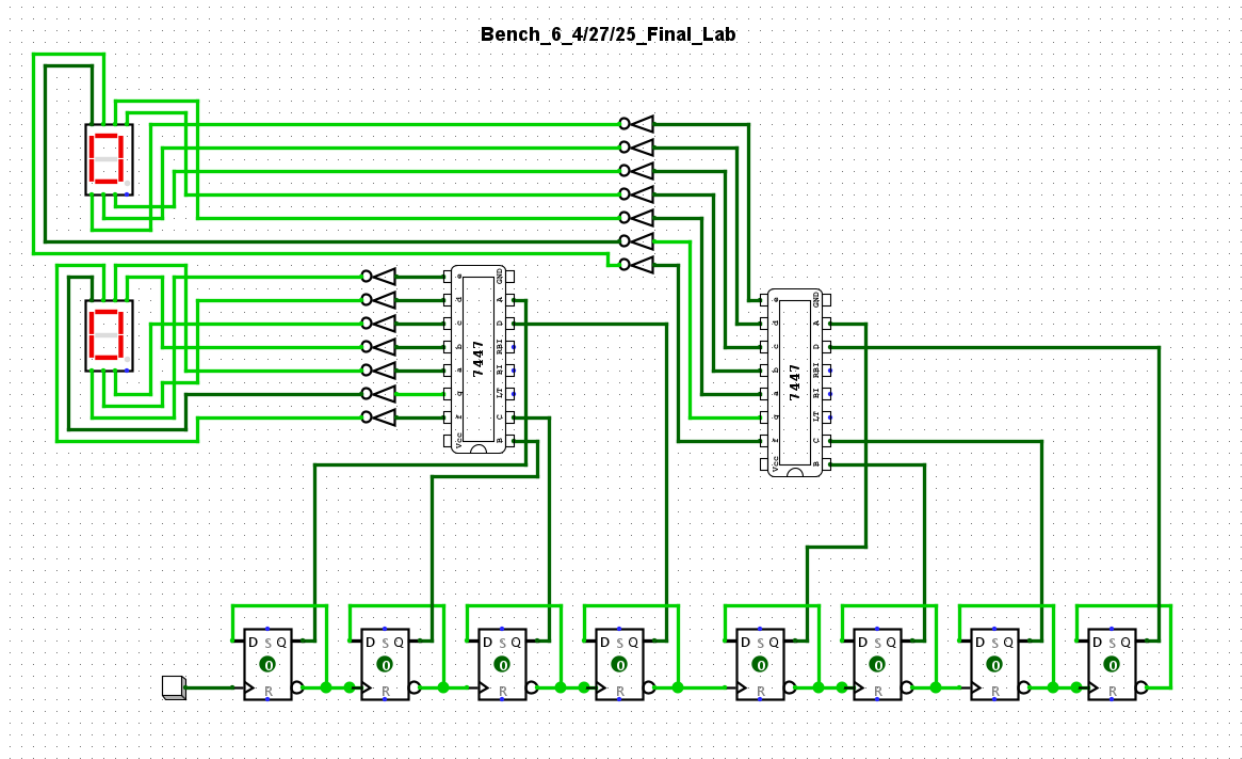

Figure 3: Completed Gate-Level 8-Bit Counter
7. Next simulate an 8-bit counter using the same components as the previous 4-bit counter on both the gate and chip level. (See Figures 3 and 4).